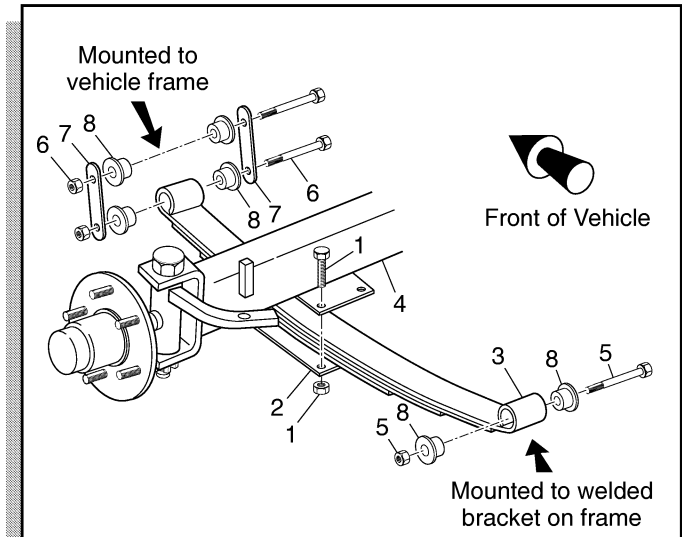

Fig. 3 Front Spring Replacement
Remove hardware (1) and mounting plate (2) securing the spring (3) to the axle (4) (Ref Fig. 3 on page E-2).